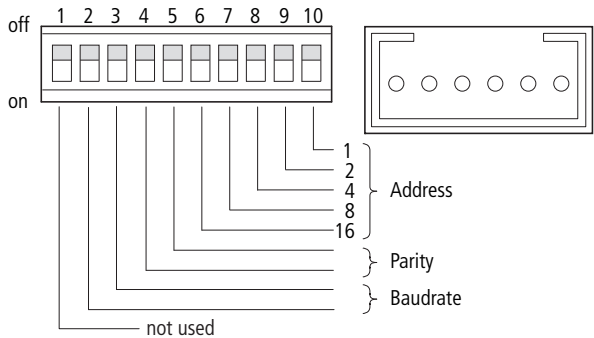

Figure 7: Setting the station address, parity and baud rate
► On the DIP switch (Fig. 7) on the device underside, set the gateway's station address, parity and baud rate.